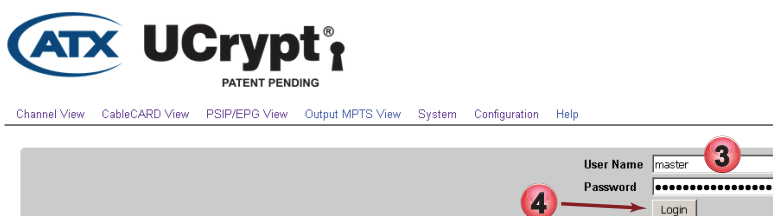

Figure 1-4: Login with Credentials
3. The login page is presented, Figure 1-4. Enter the Master **User Name** and **Password** from Table 1.6a.